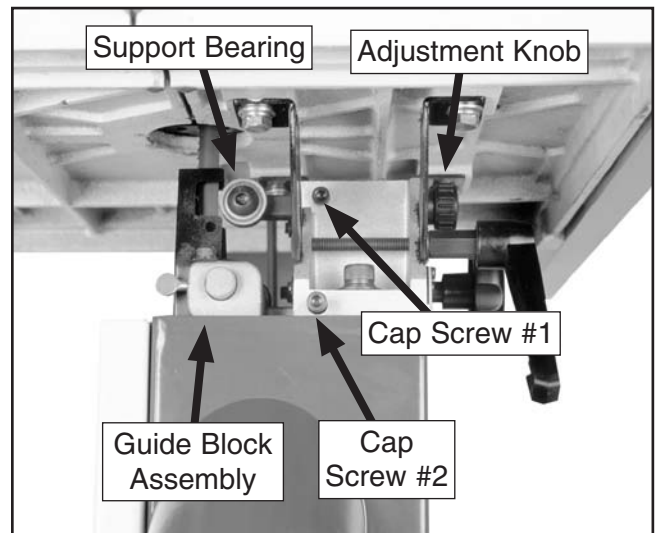

Figure 30. Side of lower blade guide.
- Loosen cap screw #1 shown in **Figure 30** and rotate the adjustment knob to slide the support bearing away from the blade.
5. Loosen cap screw #2 shown in **Figure 30** and adjust the guide block assembly until the front edge of the guide bearings are aligned $\frac{1}{16}$ " behind the gullet line as shown in **Figure 32**. Retighten cap screw #2.
7. Turn the adjustment knob shown in **Figure 30** to slide the support bearing forward against the back edge of the blade and then back the bearing off approximately 0.016" as shown in **Figure 29**. Tighten cap screw #1 to secure the bearing in place.